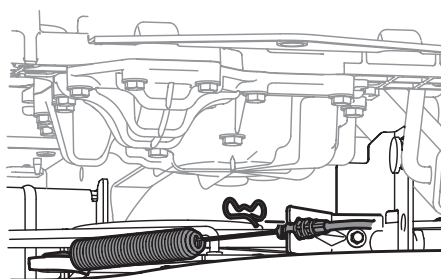

Figure 40
7. Remove the bow tie clip that secures the PTO cable to the bracket on the deck, slide the PTO cable out of the bracket and unhook the spring from the idler bracket. See Figure 40.